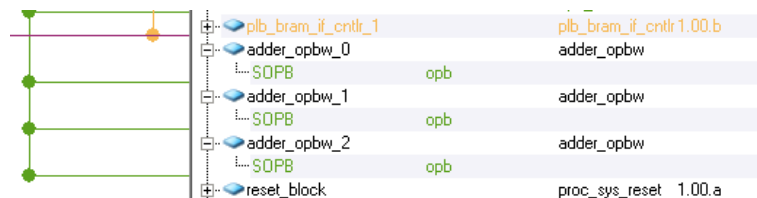

Figure 2: Adder cores attached to the OPB
5. Repeat steps 3 and 4 to add two more `adder` cores (three total). When you've added three cores, your Bus Interface view should look like Figure 2.